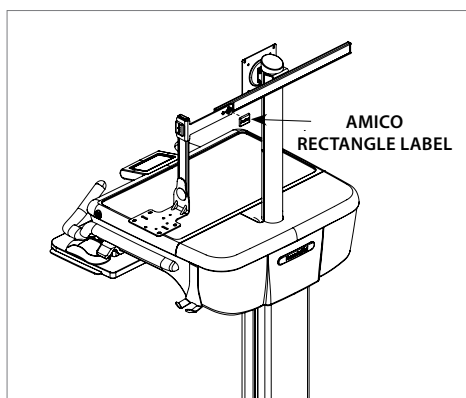
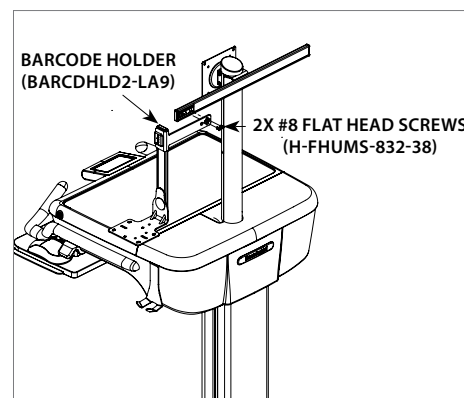

Figure 20
Figure 21
2. Remove the **AMICO RECTANGLE LABEL (Figure 20)** and unscrew the 2x **#8 FLAT HEAD SCREWS (H-FHUMS-832-38)** of the **WIRELESS BARCODE SCANNER DOCK HOLDER (HMABARCDHLD2-LA9)** using #3 Philip's Head screwdriver (**Figure 21**).